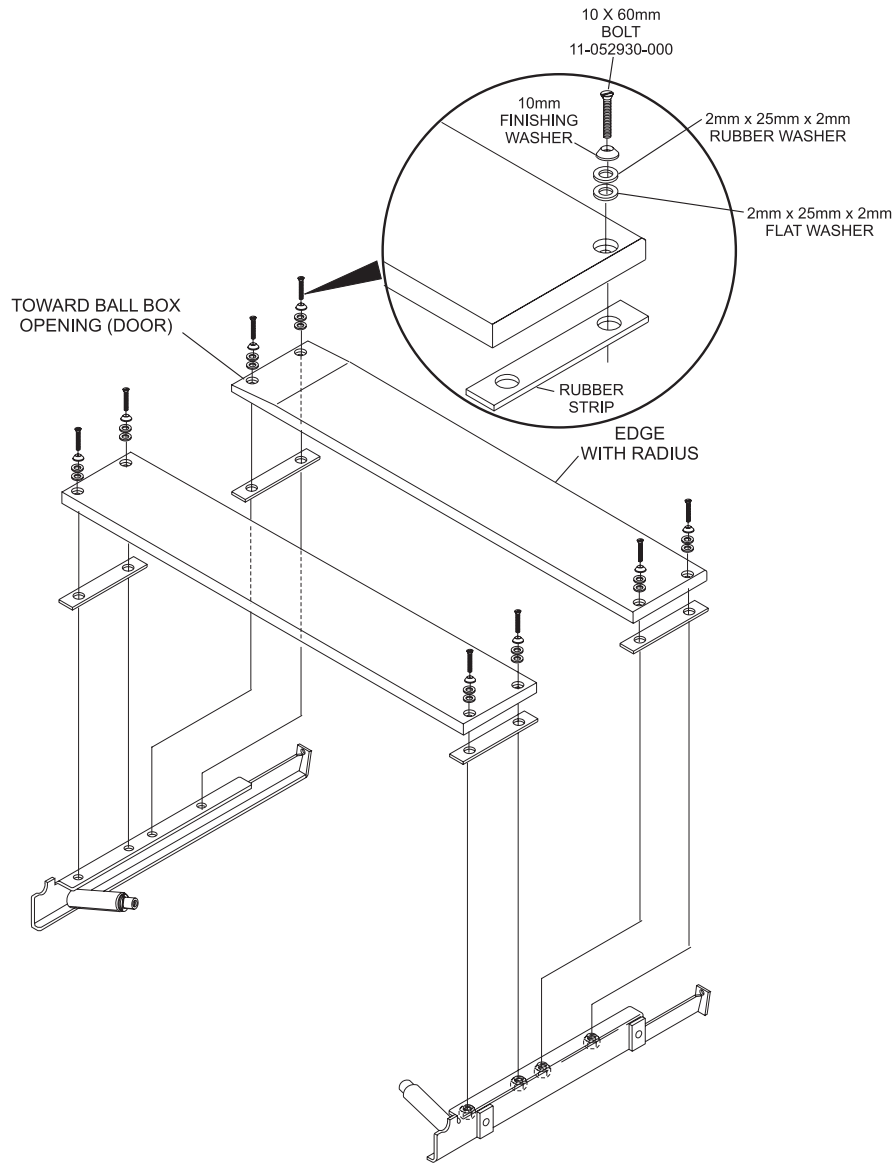

Figure 5
3. Assemble the T-band board with the T-band board bolt. Refer to *Figure 5*.